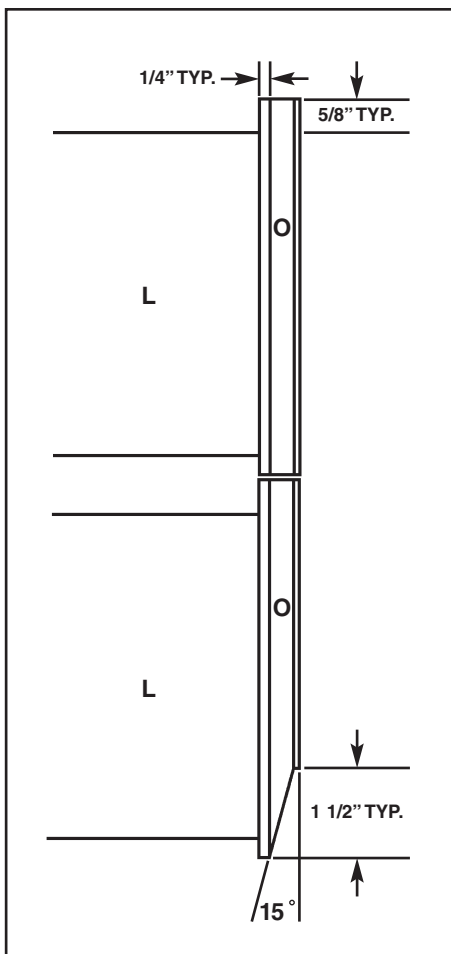

Figure 9
- Cut raised-panel design on side edges of drawer face boards (O). Refer to Figures 9 and 10.
- Cut raised-panel design on top edge of top drawer face board (O) and on bottom edge of bottom drawer face board (O). Refer to Figures 9 and 10.
- Attach drawer faces (O) to drawer box fronts (M) using glue and clamps (drawer faces are centered horizontally on drawer boxes). Refer to Figures 9 and 10. Note: drawer faces (O) may be attached from the inside of the drawer boxes using screws.